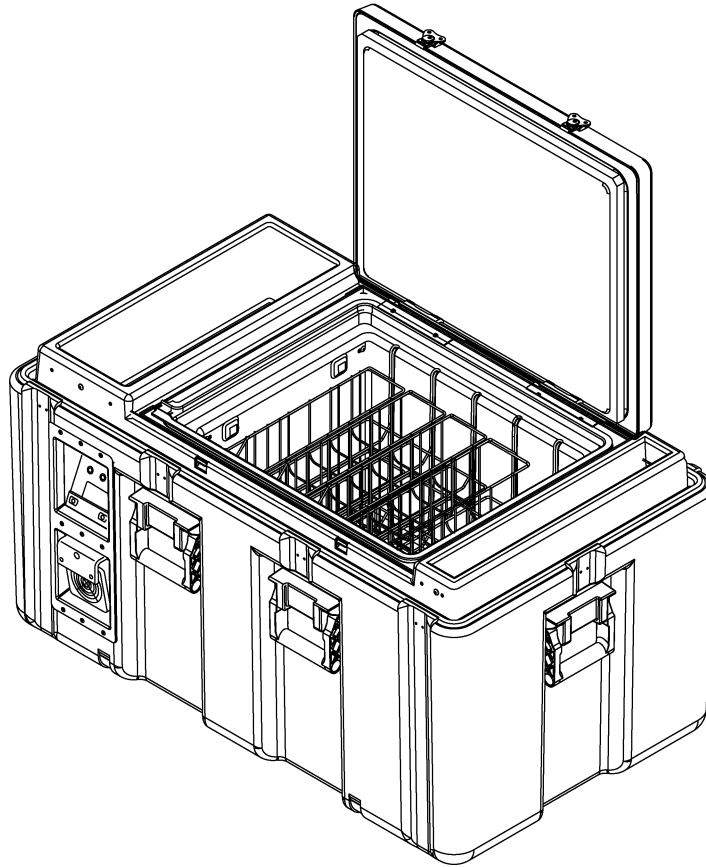

Figure 1-1. HemaCool® Compartments
- (1) It employs vacuum insulation panels to decrease the power required to regulate temperature in a given environment, increase holdover time when energy sources are lost or disconnected, and increase internal temperature stability.
- (2) In its cooling mode (4°C (39°F) set point), the unit prevents payload freezing in subzero environments by applying heat rather than cooling.
- (3) The unit's control system works with a number of different power sources without special adapters. This power system includes internal batteries that allow the HemaCool® to operate for a time without external power (see specifications).
- (4) The HemaCool® includes integral payload compartment temperature monitoring and logging.
- (5) The HemaCool's® internal design is arranged to accept baskets for holding blood bags (or fresh frozen plasma bags when the unit is operating in freezer mode).
- (6) Small internal fans help circulate cooling air to maintain uniform temperature.
- f. The assembled case is divided into three compartments (Figure 1-1):
- (1) The electronics compartment, which is on the left side when you face the display.
- (2) The payload compartment, which is in the middle and is covered by a separate internal lid.
- (3) The battery compartment, which is on the right side when you face the display.